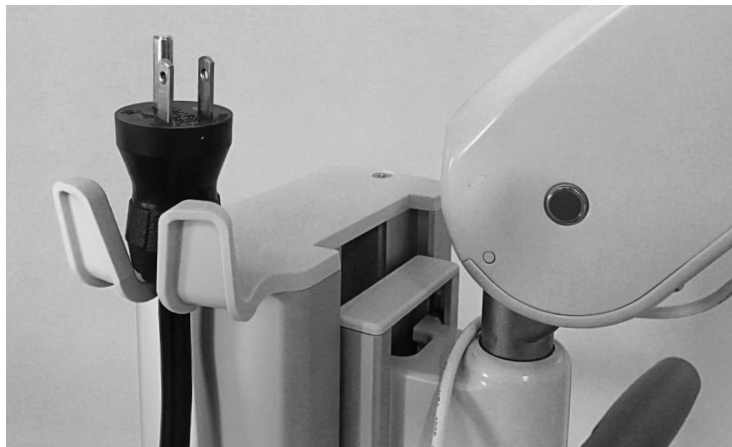

Figure 21: Power Cord Holder
4. Secure the Coiled Power Cord from the Power Strip on the Power Cord Holder of the Tower. See Figure 21.